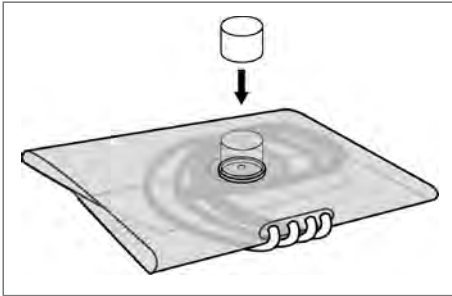

Figure 47
7. Position first the hole of the centering aligner in the dedicated fitting on the bag. Position then the magnetic clamp. (see Fig. 47).